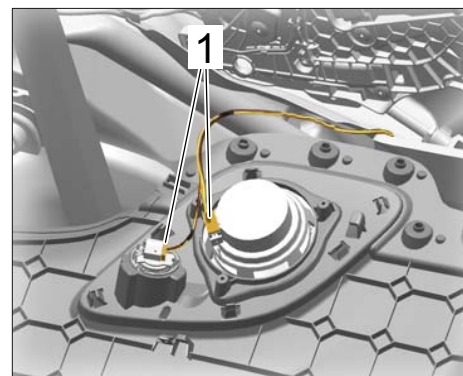

Figure 8
4.6 Disconnect electric plug connections ⇒ *Figure 8 -1-* at the loudspeaker.